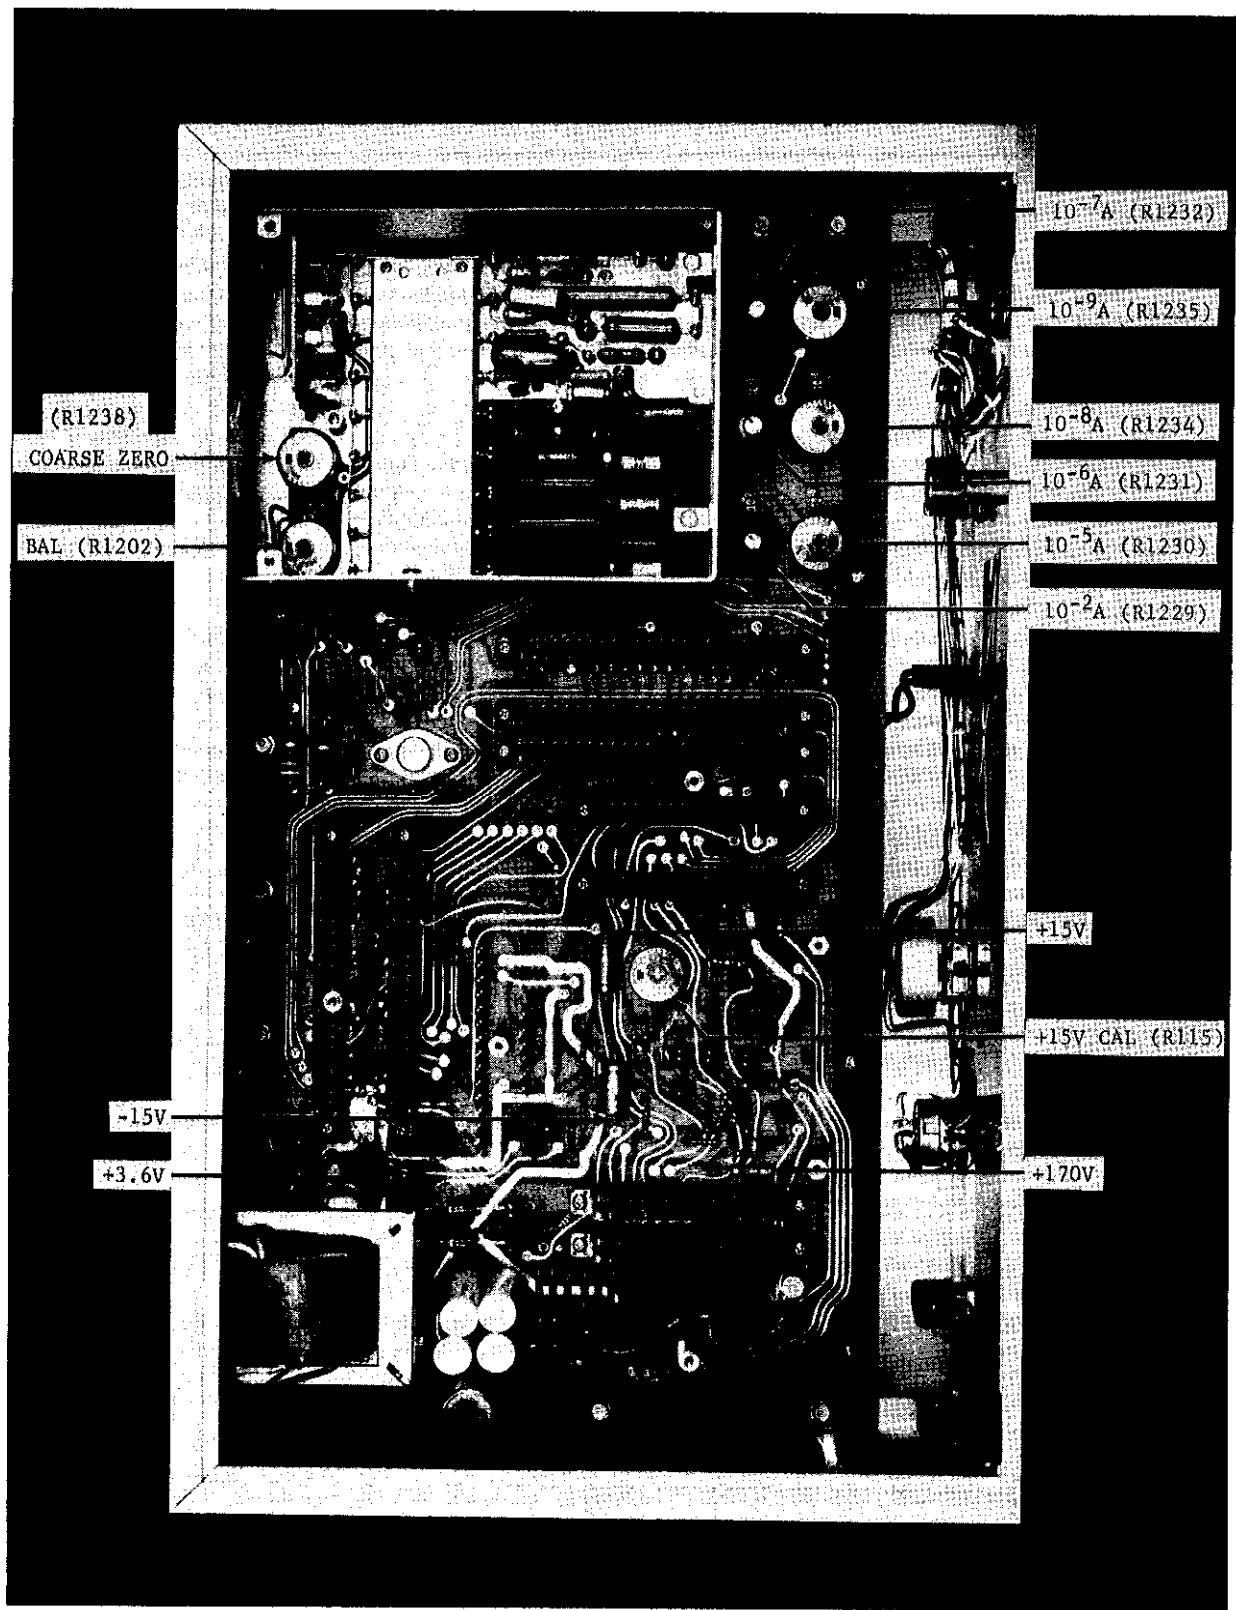

FIGURE 18. Chassis, Top View.
2. **Zero Crossing Detector Circuit.** (Refer to Figure 18). The high gain amplifier is composed of cascaded amplifiers QA602 and QA603. The zero adjustment network consists of resistors R645, R646, R648, R649, and R650, and diodes D611 and D612. Transistor Q609 and other components form a 6-volt supply for QA603 and the zero circuit. The level-splitter circuit consists of diodes D613 and D614, resistors R651, R652, and R653 and gates QA604 (A, B, C).